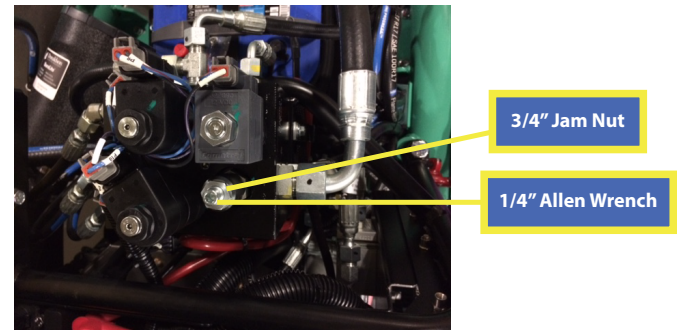

Figure 30. Pitch Pressure Adjustment
2. Loosen 3/4" jam nut on pitch relief valve (Figure 30).